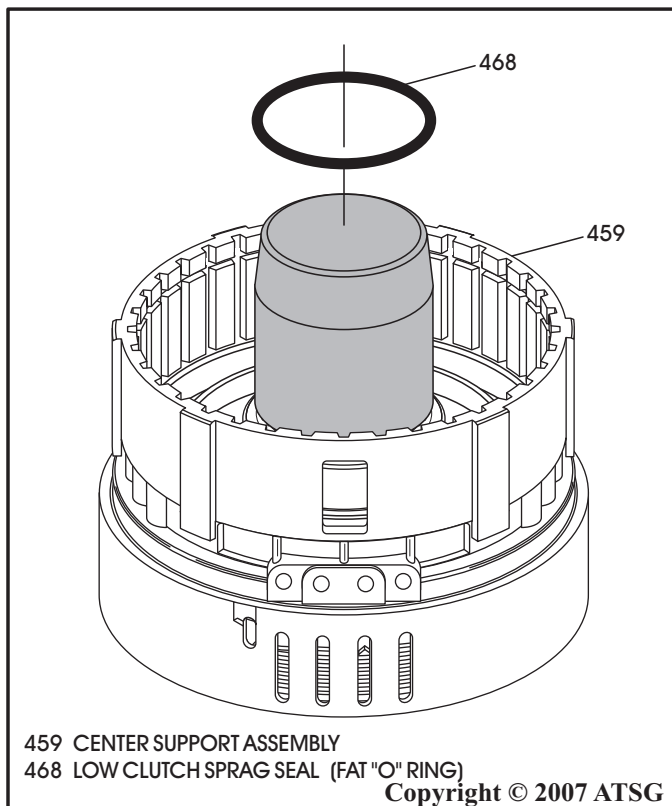

Figure 111
15. Turn the center support over on flat surface, as shown in Figure 111.
16. Install the sprag lube seal (Fat "O" Ring), as shown in Figure 111.
- Note:** *There is an installation cone available as shown in Figure 111, but is not really a mandatory tool.*